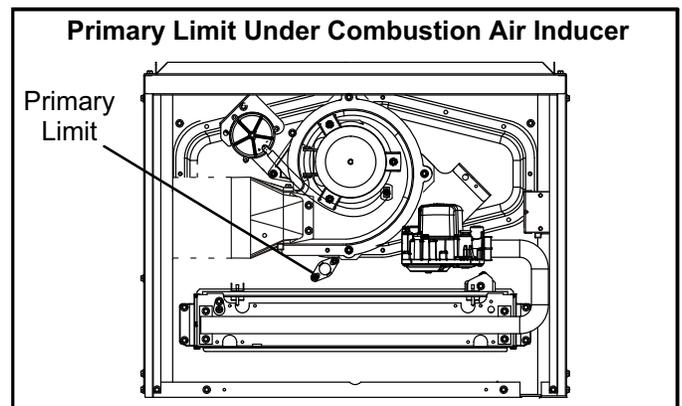

FIGURE 6
The primary limit on ML180UH(X) units is located in the heating vestibule panel under the combustion air inducer. See figure 6. When excess heat is sensed in the heat exchanger, the limit will open. If the limit is open, the integrated control energizes the supply air blower and closes the gas valve. The limit automatically resets when unit temperature returns to normal. The switch must reset within three minutes or SureLight® control will go into Watchguard for one hour. The switch is factory set and cannot be adjusted. The switch may have a different setpoint for each unit model number. If limit switch must be replaced, refer to Lennox ProductZone repair parts list on Lennox DaveNet®.